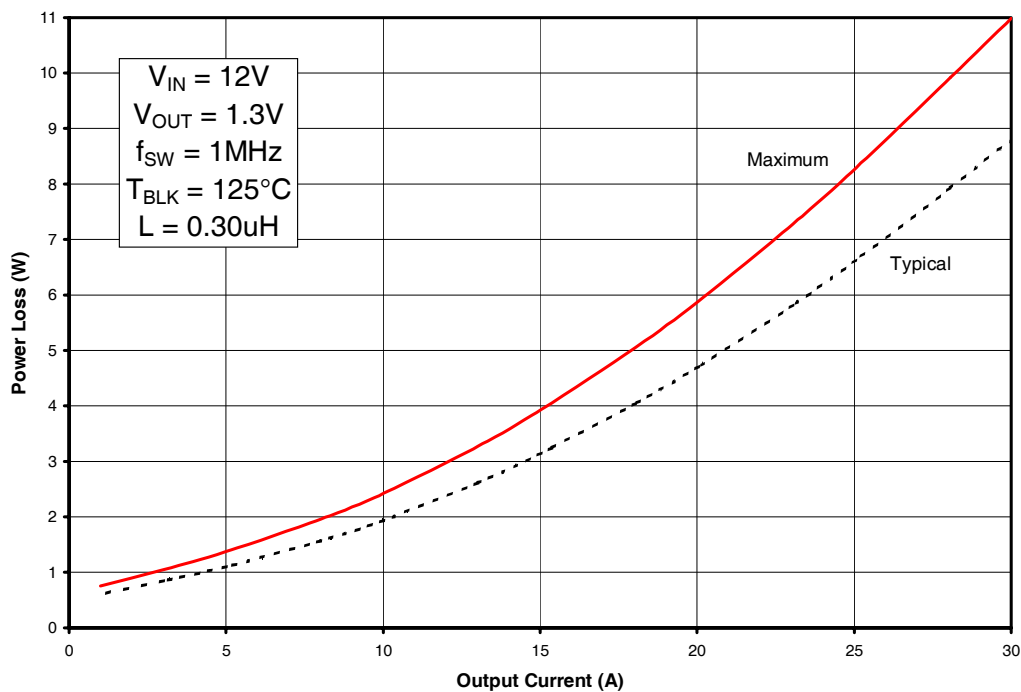
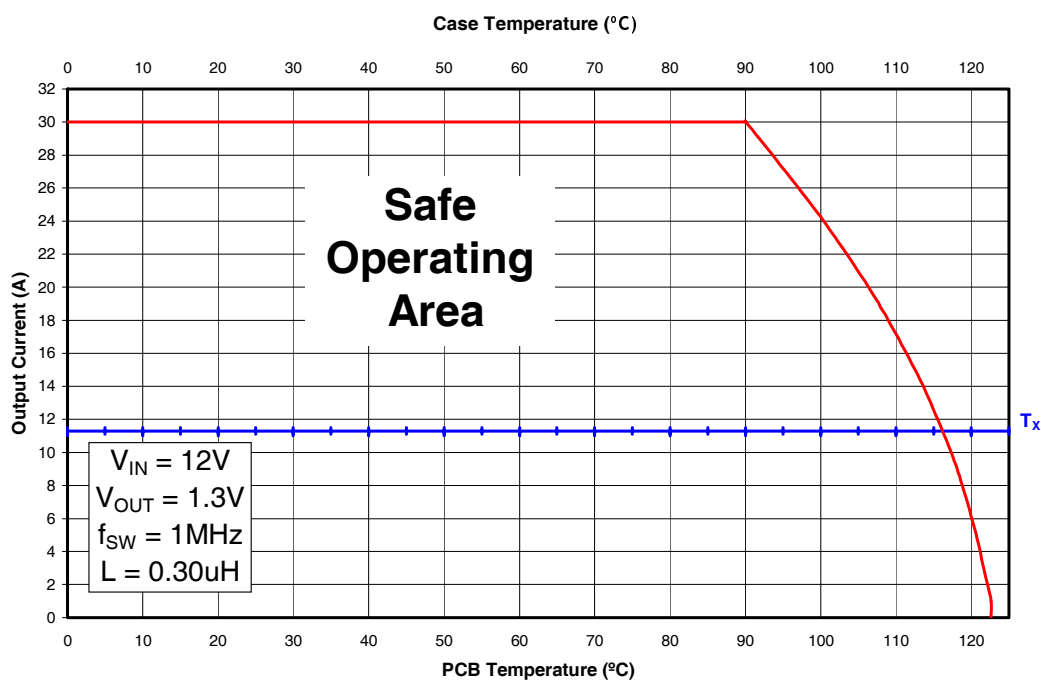
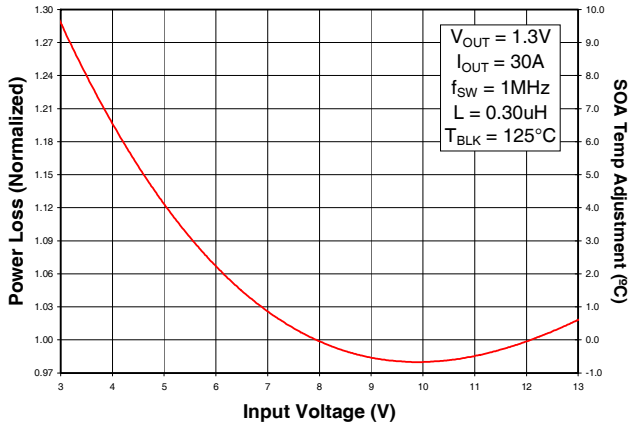

Fig. 1: Power Loss vs. Current
Fig. 2: Safe Operating Area (SOA) vs.  $T_{PCB}$  &  $T_{CASE}$
Fig. 3: Normalized Power Loss vs.  $V_{IN}$
| Input Voltage Range  | V IN  | 3.0 | -   | 13.2 | V     | see Figs. 2 & 3    |
| Output Voltage Range | V OUT | 0.8 | -   | 3.3  | V     | see Figs. 2, 4 & 8 |
| Output Current Range | I OUT | -   | -   | 30   | A     | see Fig. 2         |
| Operating Frequency  | f sw  | 150 | -   | 1000 | kHz   | see Figs. 2 & 5    |
To make adjustments to the power loss curves in Fig. 1, multiply the normalized value obtained from the curves in Figs. 3, 4, 5 or 6 by the value indicated on the power loss curve in Fig. 1. If multiple adjustments are required, multiply all of the normalized values together, then multiply that product by the value indicated on the power loss curve in Fig. 1. The resulting product is the final power loss based on all factors. See example no. 1.
To make adjustments to the SOA curve in Fig. 2, determine your maximum PCB Temp & Case Temp at the maximum operating current of each iP2002PbF. Then, add the correction temperature from the normalized curves in Figs. 3, 4, 5 or 6 to the  $T_x$  axis intercept (see procedure no. 2 above) in Fig. 2. When multiple adjustments are required, add all of the temperatures together, then add the sum to the  $T_x$  axis intercept in Fig. 2. See example no. 2.
- (Fig. 1) Maximum power loss = 11W
- (Fig. 3) Normalized power loss for input voltage  $\approx 0.98$
- (Fig. 3) Normalized SOA Temperature for input voltage  $\approx -0.8^\circ\text{C}$